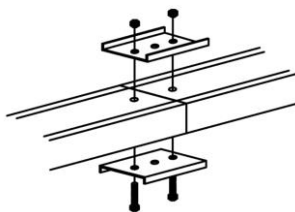

Figure 2
- Insert the nuts included in this kit to the bolts and tighten. See Figure 2.